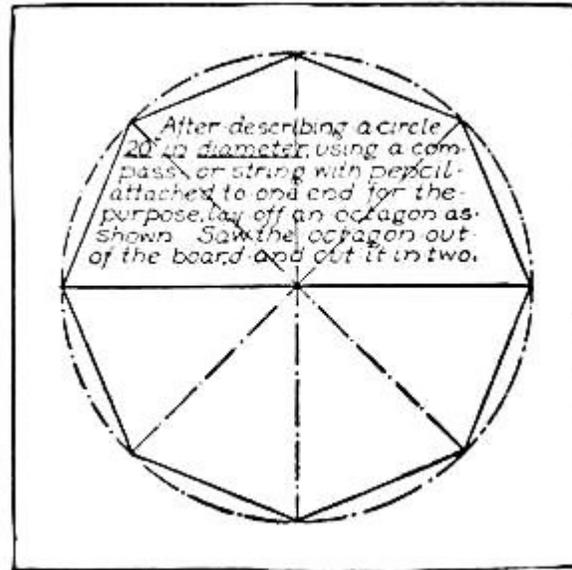

FIG. 77.—Make Gable-ends like This.
**The Gable-ends**, which are cut out as shown in Fig. 77. Make the partition between the nursery and ball-room (*H*) in the same way, with a door cut in it, as shown in Fig. 70.